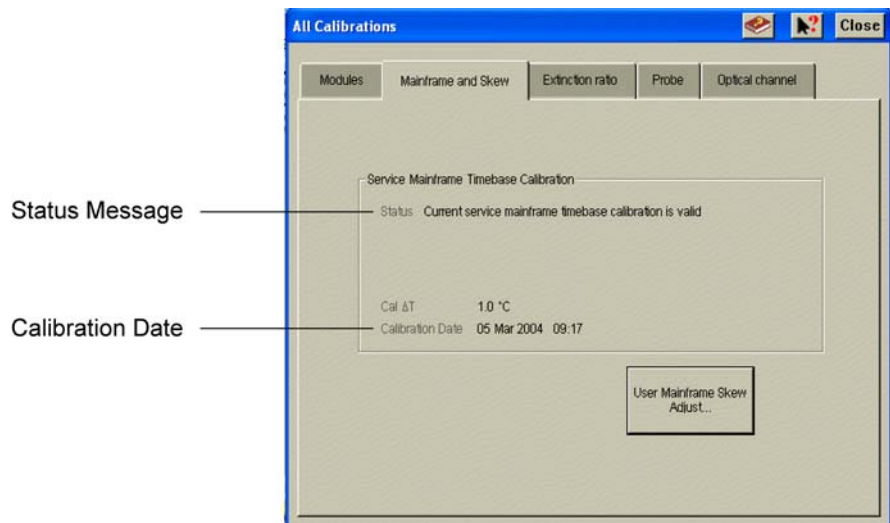

Figure 1-25. Mainframe timebase calibration status and date
- a Click Calibrate > All Calibrations. Click the Mainframe and Skew tab. Record the calibration date for use later in this procedure. See Figure 1-25.
- g** Confirm that the displayed calibration date is the same date that you recorded in Step 2. Verify that the displayed status message reads “Current service mainframe timebase calibration is valid.” See Figure 1-25 on page 31.